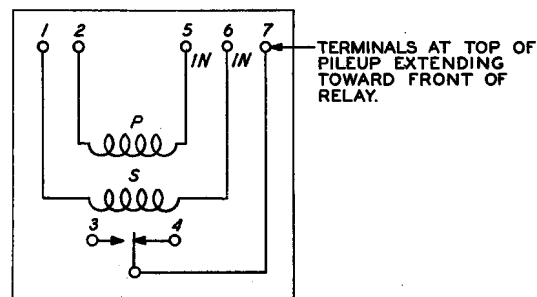

Fig. 51 — Winding and Spring Terminal Arrangement as Viewed From the Front (contact side) — 267-Type Relays
**2.65** As viewed from the front, the contact and winding terminals are numbered consecutively from 1 up starting at the left as shown in Fig. 51. However, the front and back contacts (numbered 3 and 4, respectively, at the rear) connect directly to the wiring terminals, and do not appear among the terminals used to connect to the relay from the front. Viewed from the front, the terminals which extend forward from the terminal assembly have the same number as they do at the rear. They therefore number from left to right as viewed from the front starting with 1. As viewed from the rear the contact and winding terminals are numbered consecutively from 1 up, starting at the right as shown in Fig. 52.